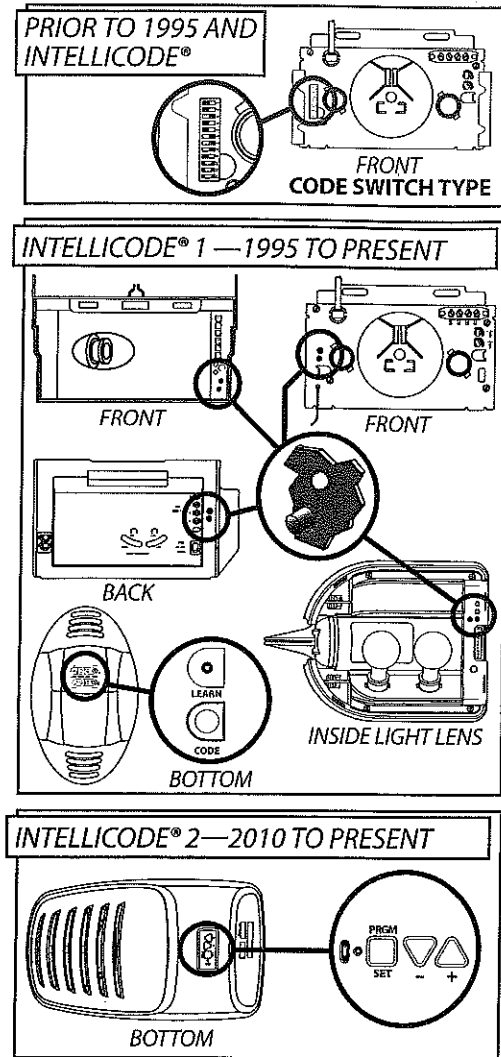

FIG. 2
The Universal Remote comes from the factory in the *IntelliCode*® 1 Operating Mode. The *IntelliCode*® 1 Mode is indicated by a RED LED on the remote whenever a button is pressed (FIG. 2).
3. Press and release a Remote Button, (FIG. 2)—the Learn Code LED will stay on (stops blinking)
The button or buttons on your remote that you wish to use to operate *IntelliCode*® 2 openers, must be switched to the *IntelliCode*® 2 Operating Mode. The *IntelliCode*® 2 Mode is indicated by a GREEN LED on the remote whenever a button is pressed (FIG. 2).